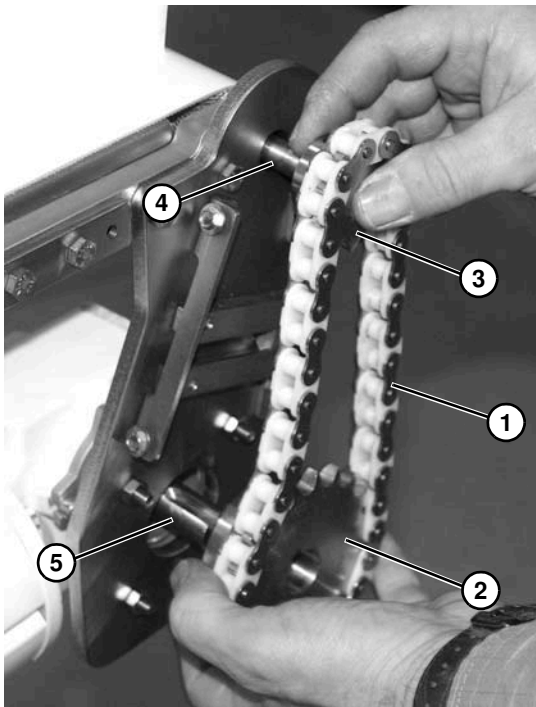

Figure 31
Make sure sprocket keys are installed on conveyor input shaft (**Figure 31, item 4**) and gearmotor output shaft (**Figure 31, item 5**).
1. Install timing chain (**Figure 31, item 1**) over drive sprocket (**Figure 31, item 2**) and driven sprocket (**Figure 31, item 3**). Install timing chain and sprockets on conveyor input shaft (**Figure 31, item 4**) and gearmotor output shaft (**Figure 31, item 5**). Do not tighten sprocket set screws.